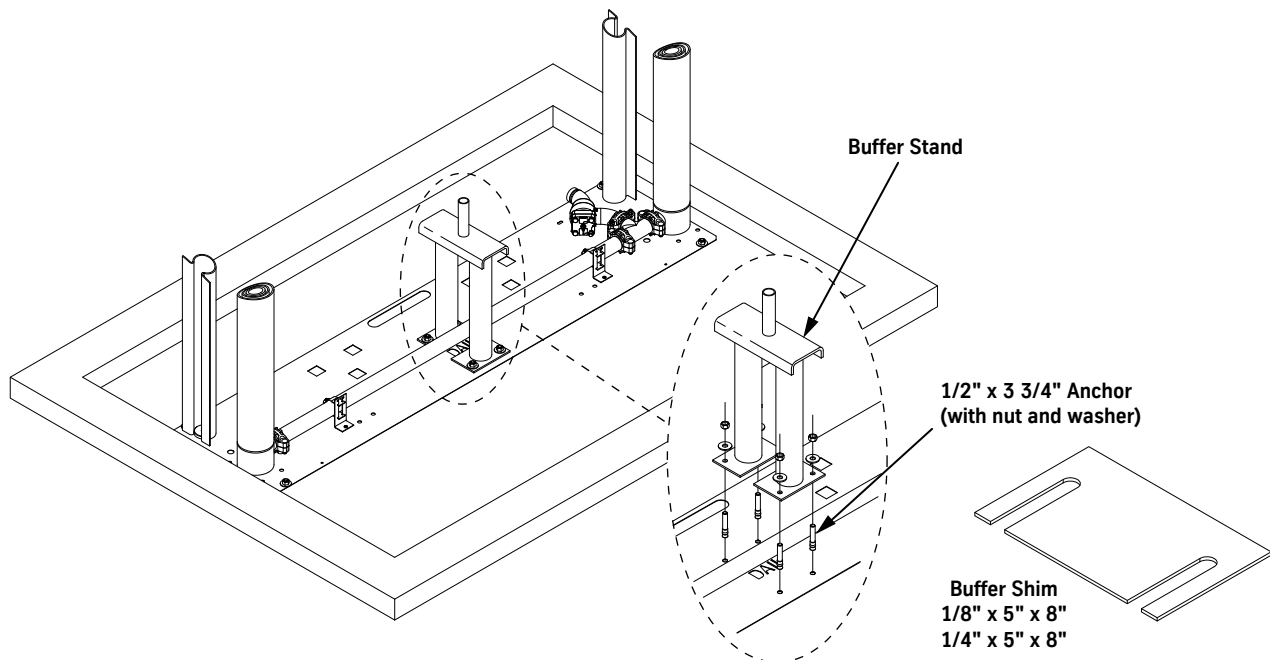

Figure 40 - Buffer Stand Installation
1. Place the buffer stand on the pit template. See Figure 40.